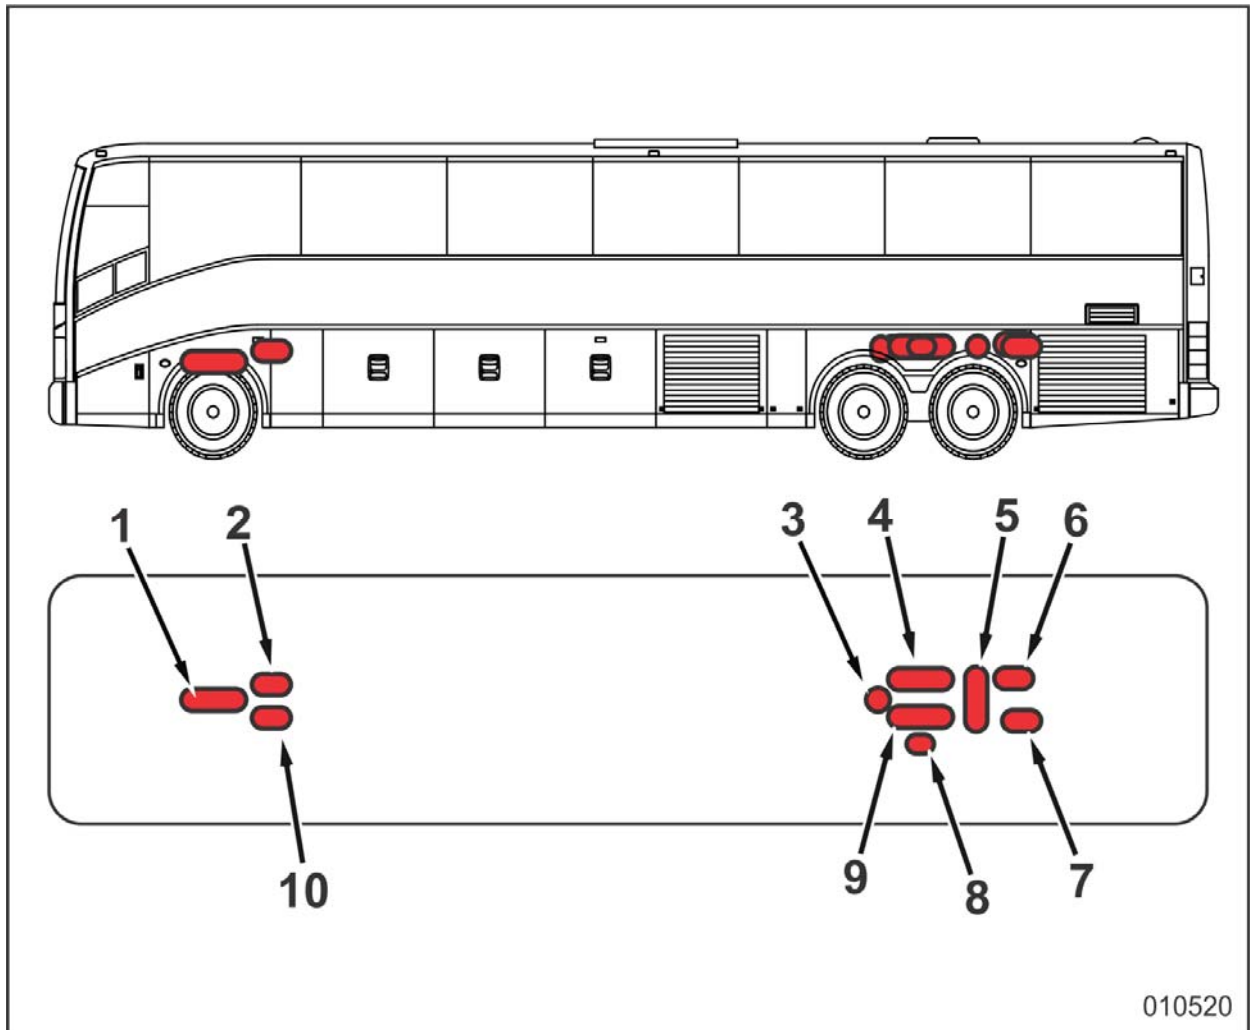

Figure 9: Location of compressed-air tank on CX45
3.2	<div data-bbox="375 1003 466 1093" data-label="Image"> </div> <p>WARNING! Use appropriate hearing protection while draining the air tanks.</p> <p>Completely drain the entire air system by using the drain cocks on the air tanks. Refer to figure 9 at the end of this service bulletin for air tanks location.</p> <div data-bbox="363 1227 896 1612" data-label="Image"> </div> <p>Figure 5: Compressed-air tank drain cock, previous model</p> <p>1. Closed 2. Open</p> <div data-bbox="917 1227 1452 1612" data-label="Image"> </div> <p>Figure 5b: Compressed-air tank drain cock, current model</p> <p>Left: closed Right: open</p>